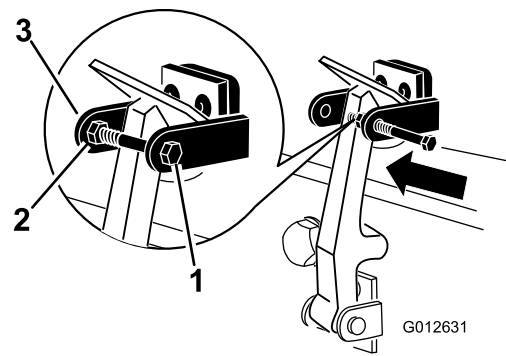

Figure 8
8. Install the bolt into the other arm of the hood-latch bracket to lock the latch in position (Figure 8). Tighten the bolt but do not tighten the nut.